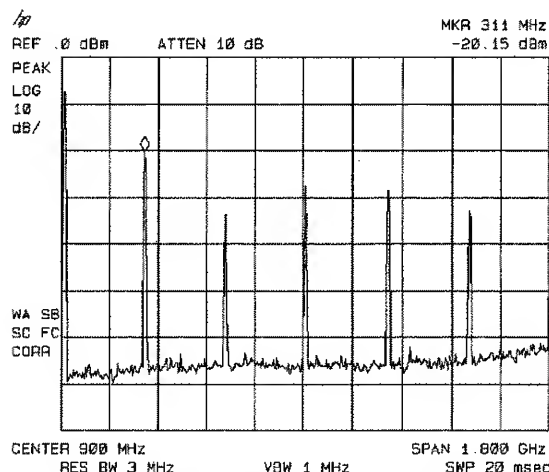

Figure 3-12. Placing a Marker on the CAL OUT Signal
2. Press **PEAK SEARCH** to place a marker at the highest peak on the display. The **NEXT PK RIGHT** and **NEXT PK LEFT** softkeys move the marker from peak to peak. Press **NEXT PK RIGHT** to move the marker to the 300 MHz calibration signal. See Figure 3-12.